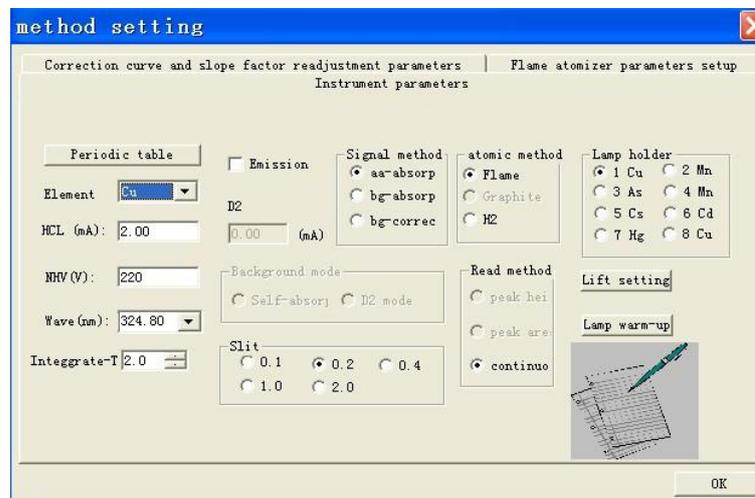

Figure 4-46
2. Press "More parameters" to show a dialog as shown in Figure 4-46.